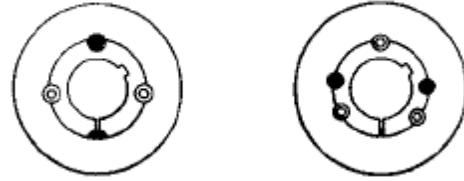

Fig. 10.3 Pulley holes
3.- Fit the bush into the hole in the pulley, taking care to align the threaded half-holes on the pulley with the unthreaded half-holes on the bush (Photo 32). There may be 2 or 3 of these holes (Fig. 10.3), as can also be seen in Chart 9.1, depending on pulley size.